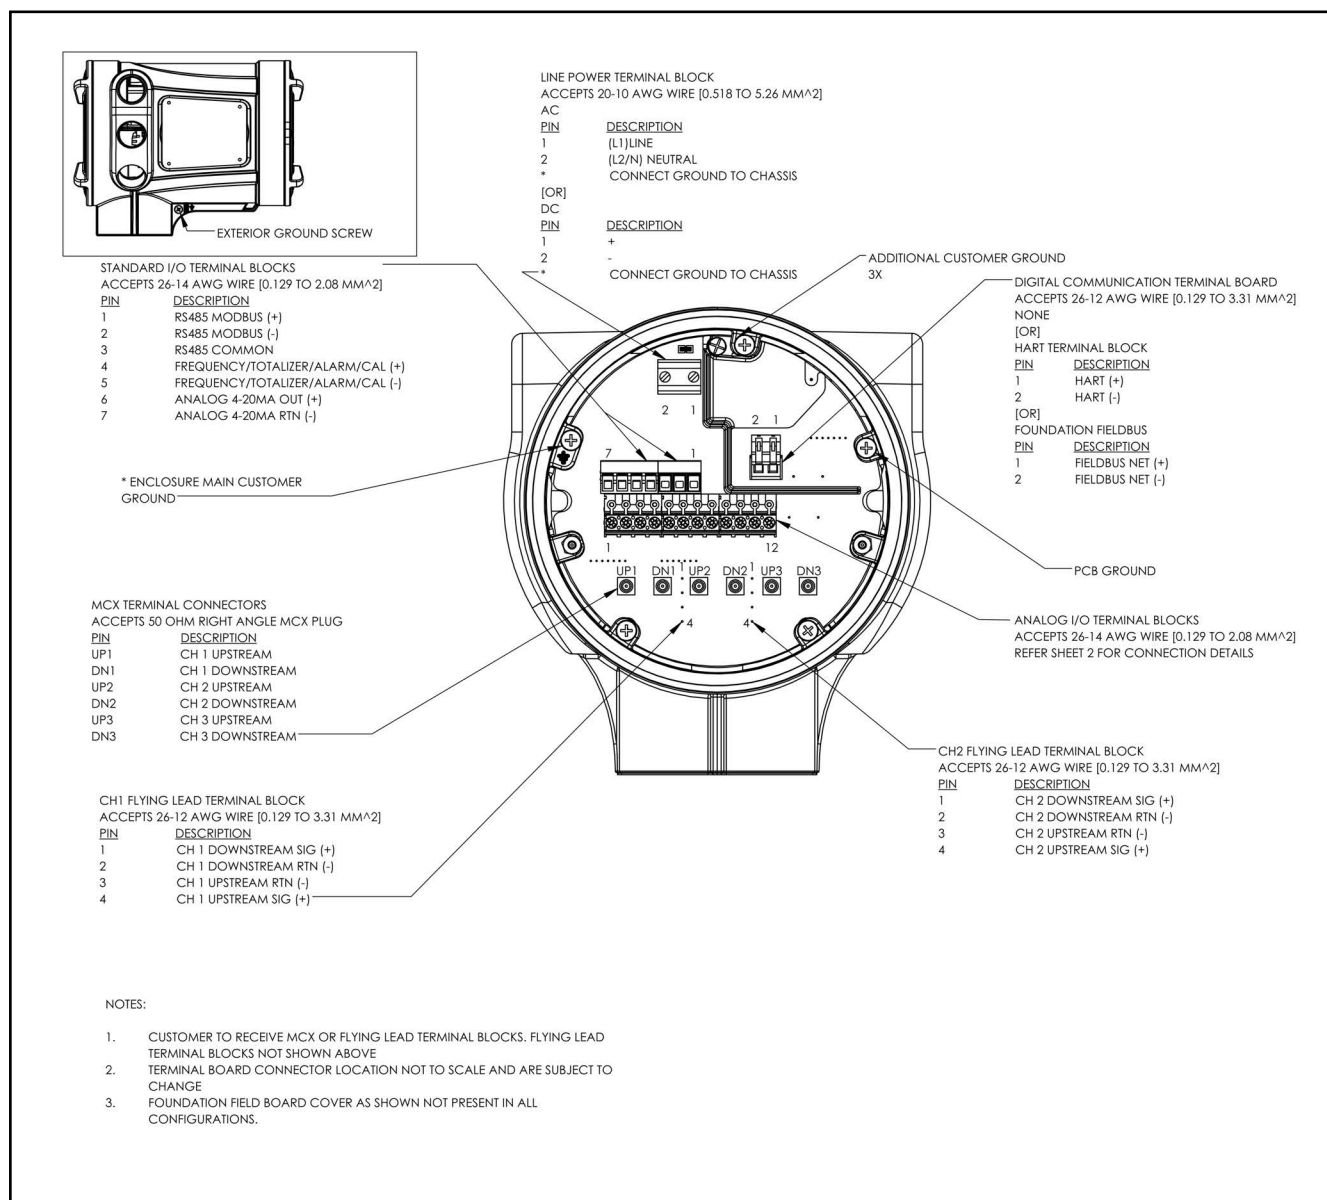

Figure 12: XMT1000 Terminal Board Wiring Diagram
This section contains instructions for making all the necessary electrical connections for the XMT1000 flow transmitter. Refer to *Figure 12 on page 13* for a complete wiring diagram.
WARNING! Proper grounding of the XMT1000 enclosure via the external grounding screw on the enclosure (see *Figure 12 on page 13*) is required to prevent the possibility of electric shock. All ground screws should be hand tightened only, to a maximum allowable torque of 2.5 N-m (22 in-lb).
3. Refer to *Figure 12 on page 13* for the location of the terminal block and wire the analog output as shown. Secure the cable gland.
3. Refer to *Figure 12 on page 13* for the location of the terminal block and wire the digital output as shown. Secure the cable gland. Refer to *Appendix A, "Specifications"* for the load and voltage requirements.
To wire to this RS485 serial port, refer to *Figure 12 on page 13* and complete the following steps:
The XMT1000 flow transmitters has the option for an additional 4–20mA/HART output or a Foundation Fieldbus output on terminal block #1 (TB1) per *Figure 12 on page 13*. In the HART system an active signal is used, whereas FF corresponds to a passive signal. Connections to this output may be made with standard twisted-pair wiring, but the current loop impedance for this circuit must not exceed 600 ohms.
3. Refer to *Figure 12 on page 13* for the location of the terminal block and wire the HART or Foundation Fieldbus output as shown. Secure the cable gland.
The XMT1000 flow transmitters has the option for additional analog outputs, analog inputs, and RTD inputs on terminal block #2 (TB2) per *Figure 12 on page 13*. Connections to this output may be made with standard twisted-pair wiring.
3. Refer to *Figure 12 on page 13* for the location of the terminal block and wire the additional I/O output as shown along with the table below.
Refer to *Figure 12 on page 13* and *Section 2.7.1, "Wiring the Analog Outputs"* to locate the Channel 1 and Channel 2 flying lead terminal blocks.
Refer to *Figure 12 on page 13* to locate the terminal blocks and connect the line power as follows: